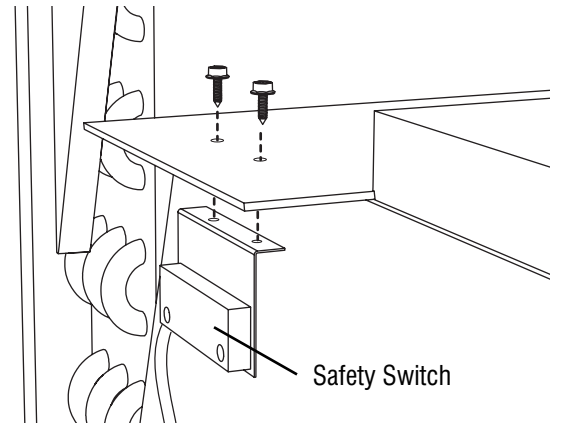

Fig. 10 Mount safety interlock switch.
1. Using included screws, mount the safety interlock switch to the coil drip shield. (Fig.10)